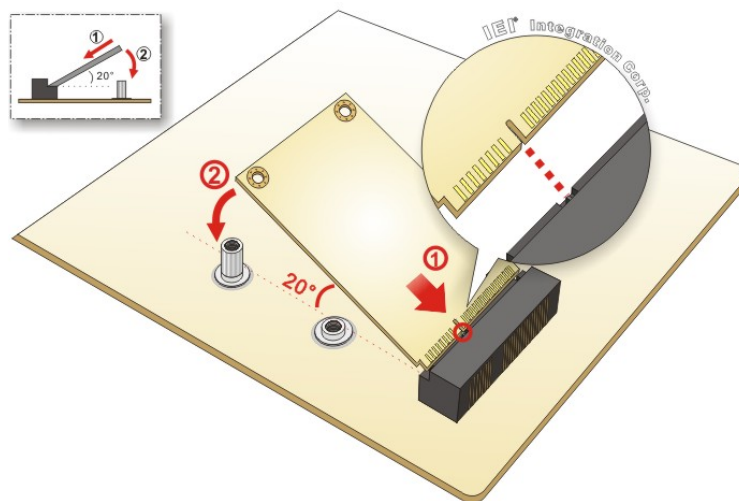

Figure 3-8: Inserting the Full-size PCIe Mini Card into the Slot at an Angle
Step 5: Line up the notch on the card with the notch on the slot. Slide the PCIe Mini card into the socket at an angle of about 20° (**Figure 3-8**).